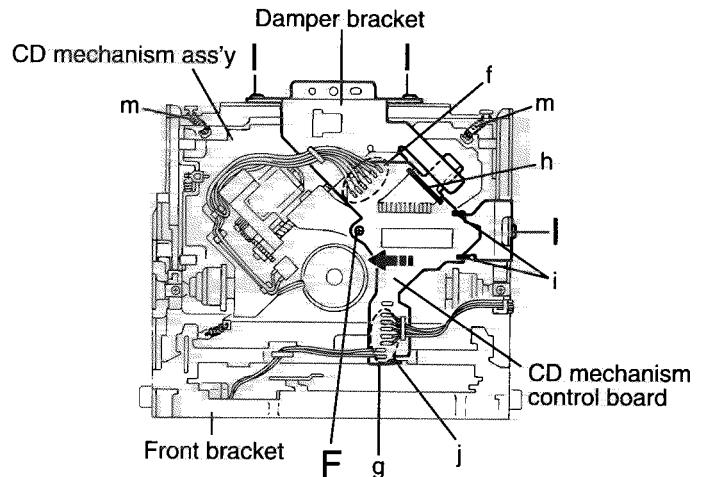

Fig.10
■ Removing the CD mechanism control board(See Fig.10 and 11)
(See Fig.10, 15 to 18)**